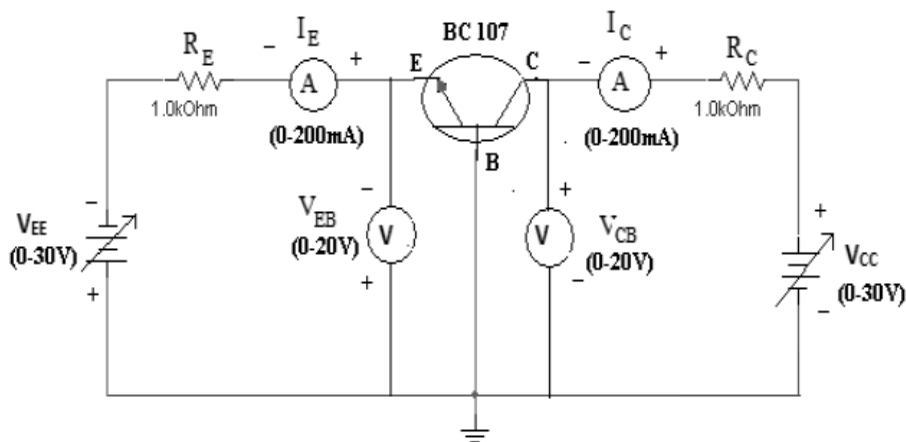

Figure 3. Circuit diagram of BJT in CB mode
1. Connect the circuit as shown in figure 3.